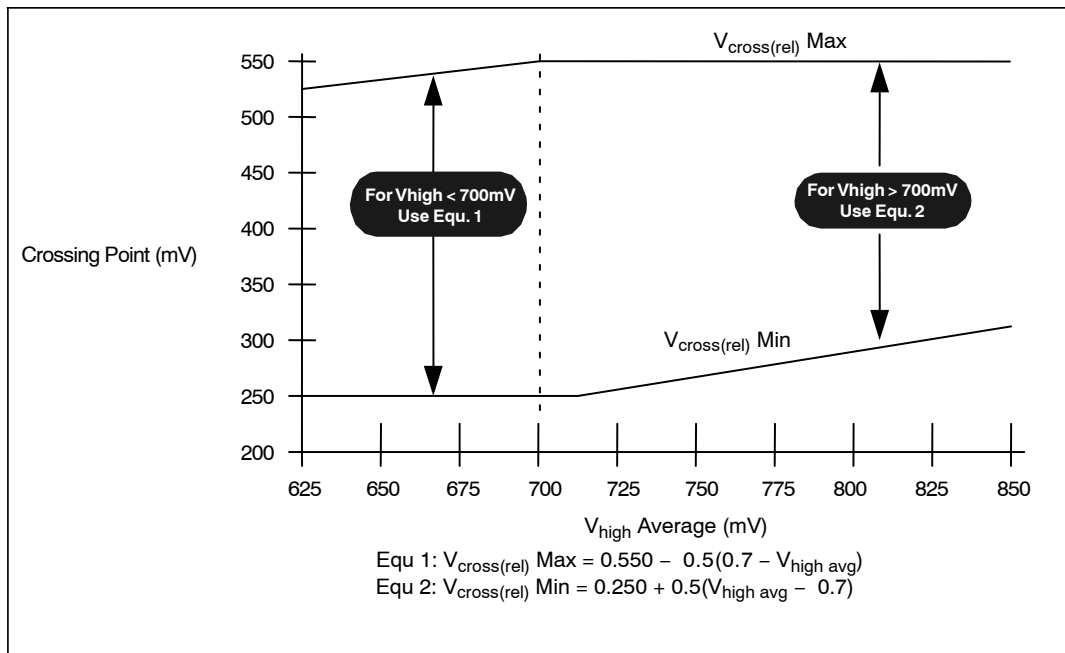

Figure 16. V_{cross} Range Clarification (Note 36)
16. $V_{\text{cross}}(\text{rel})$ Min and Max are derived using the following, $V_{\text{cross}}(\text{rel})$ Min = $0.250 + 0.5 (V_{\text{high avg}} - 0.700)$. $V_{\text{cross}}(\text{rel})$ Max = $0.550 - 0.5 (0.700 - V_{\text{high avg}})$. (see Figure 16 for further clarification).